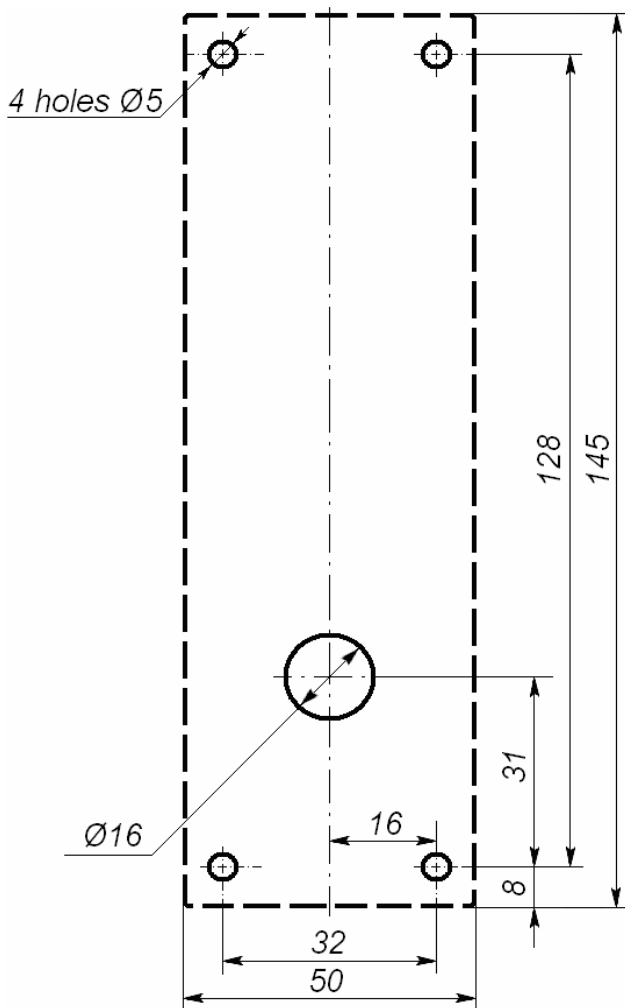

Figure 3 – IR-04.1 reader installation layout (reader housing is dotted)
2. Make the marking and holes in mounting surface for fixing the base-plate and cable laying from the reader (Ref. Fig. 3).